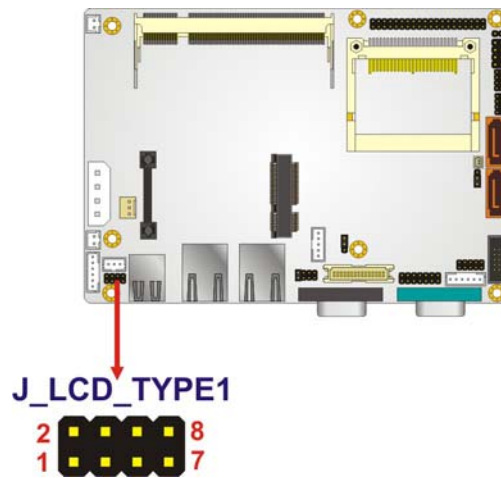

Figure 5-8:LVDS Panel Resolution Jumper Pinout Locations
- Jumper Location:** See Figure 5-8
The LVDS Panel Resolution jumper location. is shown in Figure 5-8.